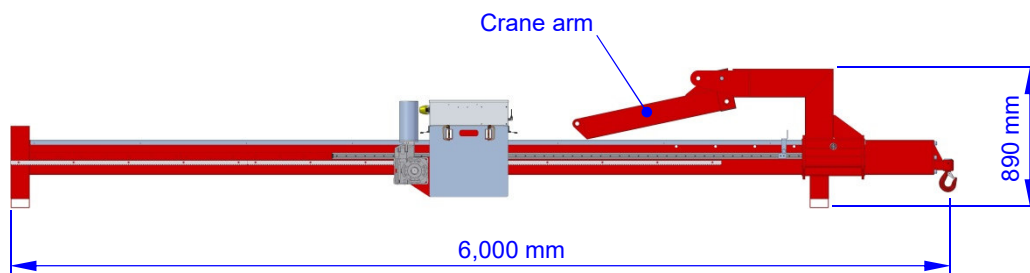
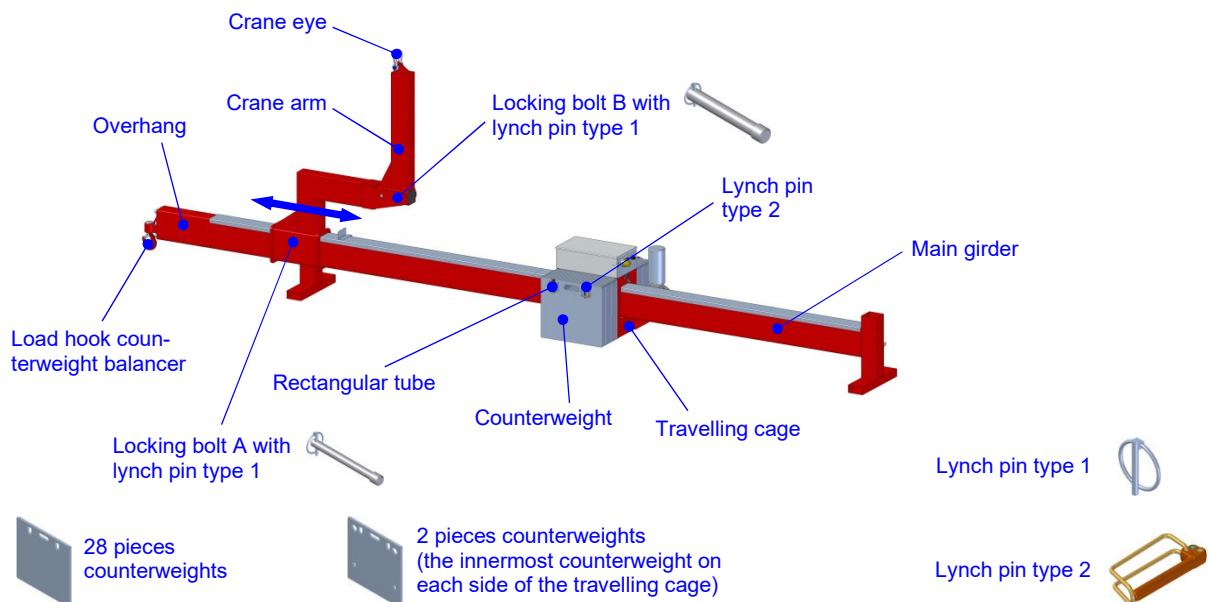

Fig. 4: Transport and storage of the counterweight balancer
Fig. 8: Assembled counterweight balancer
2. Bring the counterweights in the position shown in fig. 4.
3. Remove the locking bolt B with lynch pin type 1 (s. fig. 8).
4. Fold the crane arm in the position shown in fig. 4.
- ⇒ If the crane arm is in transport position (s. fig. 4), fold it into the position shown in figure 8 by performing the following steps:
1. Fold the crane arm into the position shown in fig. 8.
1. Remove the four lynch pins type 2 (s. fig. 8).